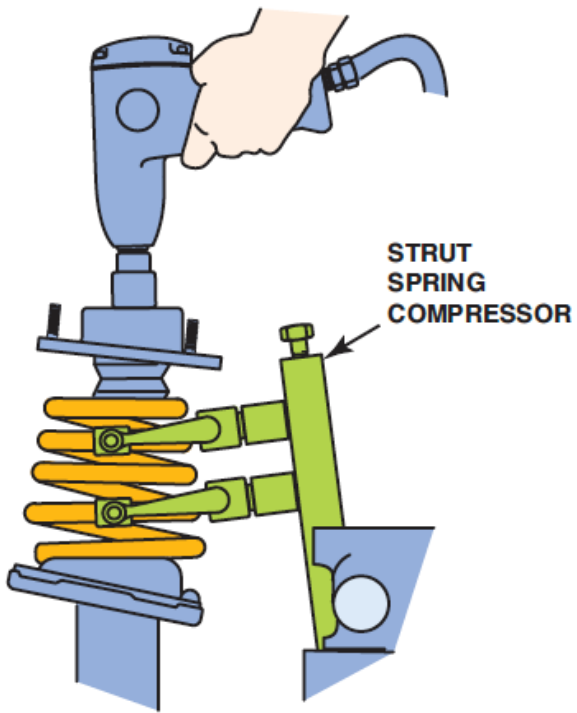

Figure 22. After compressing the spring remove the center nut.
4. Place the strut assembly into a strut spring compressor. Compress the coil spring enough to relieve the tension on the strut rod nut then remove the strut rod nut. Figure 22.